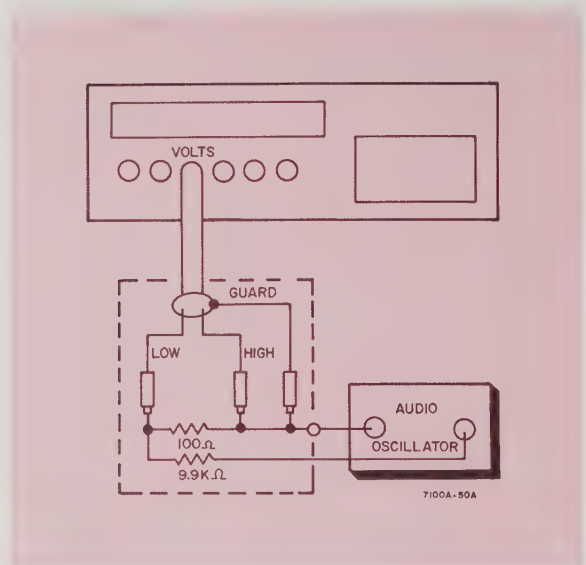

Figure 5-3. Test Set-Up 55 Hz Normal Mode Rejection
- a. Connect test equipment as shown in figure 5-3.